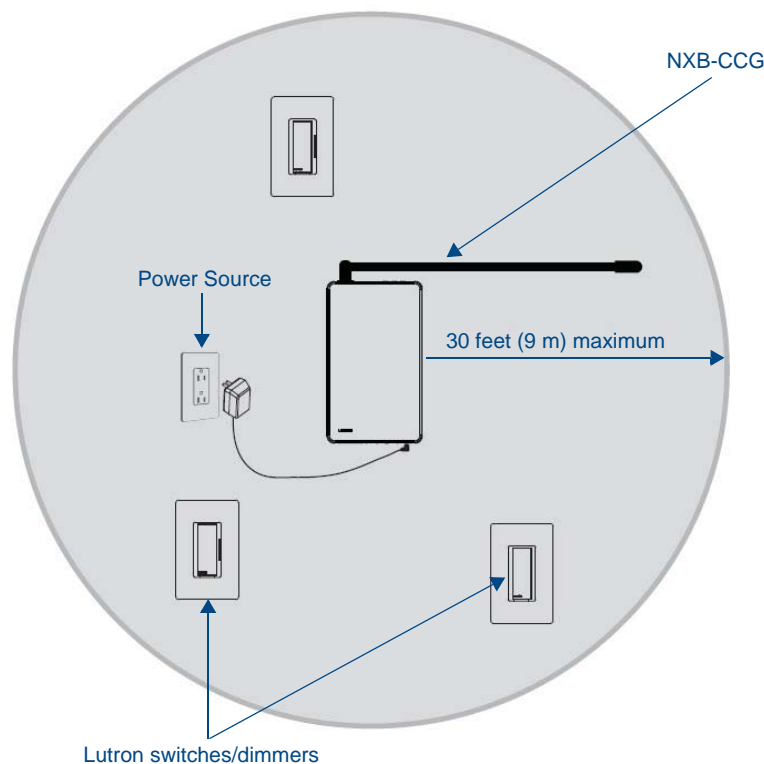

FIG. 2 RF Configuration
All dimmers, switches, keypads and shades / draperies must be located within 30 ft (9 m) of the NXB-CCG (FIG. 2).
3. Attach the DC adapter cord to the power jack on the NXB-CCG and insert the DC adapter plug into a receptacle (FIG. 2).